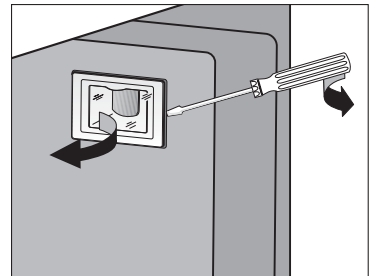

Fig. 3
**Upper cavity:** remove the glass cover using a screwdriver (fig.3). Change the bulb and refit the glass cover by pressing it slightly.